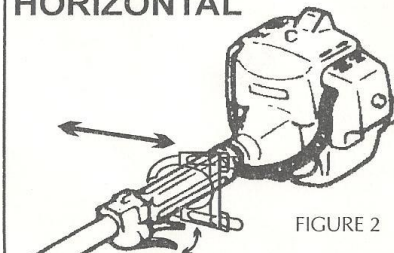

FIGURE 2
3. **INSTALL POSITIVE STOP** around handle, under the throttle trigger. (See Figures 2 and 3 on back) This will prevent engine from exceeding full throttle. (To ensure proper operation, you are required to purchase this throttle control device
1. **DO NOT EXCEED MORE THAN 1/2 THROTTLE! (Install Positive Stop, See Figures 2 and 3).**